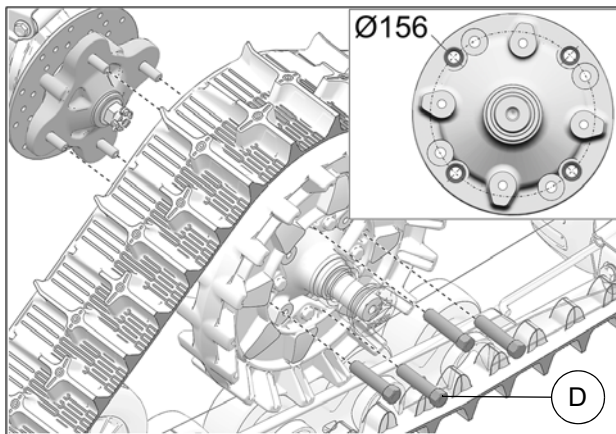

Fig. 11
- Secure undercarriage to rear hub using the provided M12 lug nuts (**D**). Use bolt circle $\varnothing 156$ mm. See Fig. 11